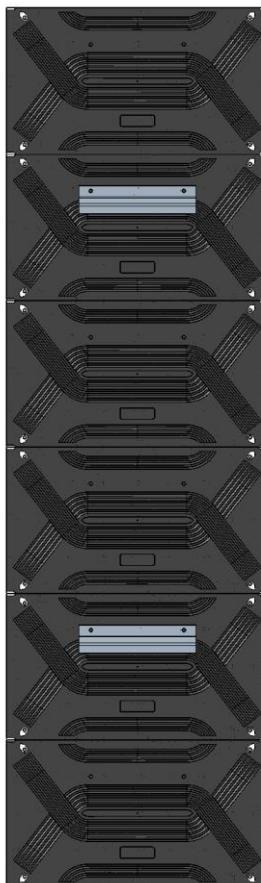

Figure 7
4. The integrated LED display is shipped with the cabinets arranged in a column according to their numbers, with a total of 6 columns arranged for 162 inches; The cabinets assembled in columns have been pre-installed with back hooks and edging(see Figure 7).
13. Install the cabinets according to the 5.2.2 steps of those for the floor standing installation. Refer to Figure 7 for the hook position